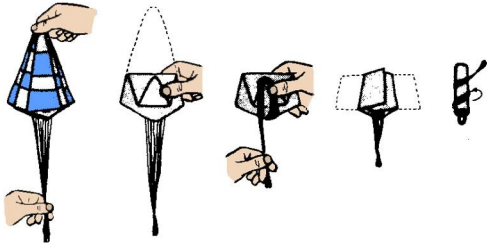

Figure 11
- **Step 20** Study the illustrations in Fig. 11 to see how to correctly fold the parachute. Attach the snap link to the screw eye only when you are ready to fly. Do not store the parachute in the body of the rocket between flights. In cold climates, or during winter months, you will find it helpful to give the parachute a light dusting of talcum powder. This will help the parachute open at deployment by keeping the plastic from sticking together.